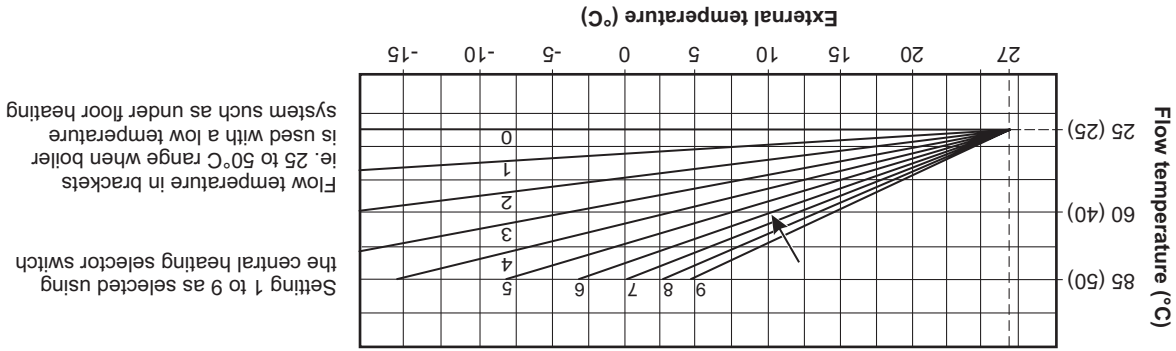
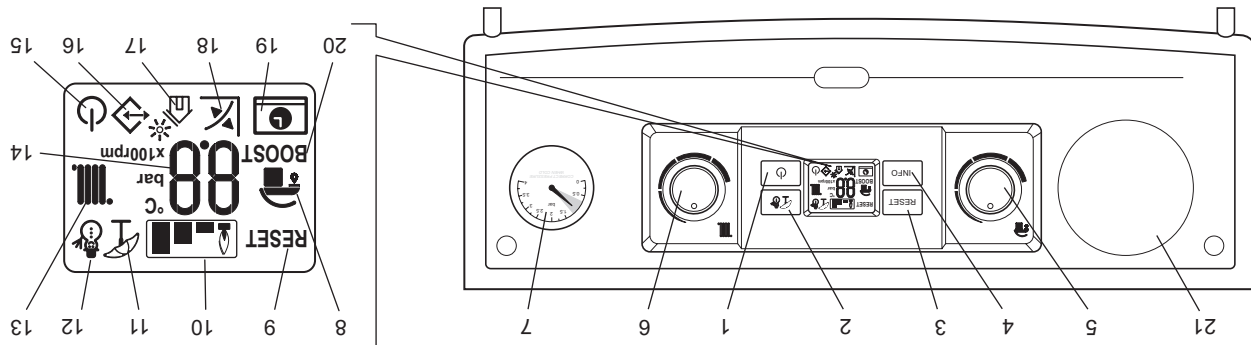

Fig. 2 - External weather compensation probe fitted
Fig. 1
On - In this mode the boiler can be switched between 'Summer' or 'Winter' settings by pressing the Summer/Winter button (item 2 in Fig. 1).
The temperature of the hot water to the taps can be adjusted by turning the hot water selector switch (item 5 in Fig. 1) to the required value shown on the display in °C.
The temperature of the central heating water can be adjusted by turning the central heating selector switch (item 6 in Fig. 1). When the heating is on the temperature of the water leaving the boiler to the radiators will be displayed.
If an external weather compensation probe is fitted, indicated by the symbol (item 18 in Fig. 1) in the display, it will automatically vary the temperature of the water in the radiators and on mild day the radiators will not feel as hot as on a cold day, this is normal and not a fault with the boiler or heating circuit. The room temperature will still be maintained as set by the room thermostat.
When an external weather probe is fitted, the central heating selector switch (item 6 in Fig. 1) will no longer adjust the flow temperature in °C, instead the display will show a scale of 1 to 9. Each number corresponds to a line on the graph in Fig 2 i.e. line 6 will give a flow temperature of 60°C when the external temperature is 10°C.
These taps should normally be in the closed position 90° to the tap housing. To fill or pressurise the system open one tap fully by turning it 90° anticlockwise in line with the tap housing. The second tap should be opened a quarter of a turn and the water will start to refill the system (water should be heard filling the system). You should see the pressure gauge (item 7 in Fig. 1) rise back up into the green area on the pressure gauge between 1 bar and 1.5 bar pressure.
Make sure the heating system is filled and the needle on the pressure gauge (item 7 in Fig. 1) is in the green band. If incorrect refer to Section 5.
Switch the boiler on at the mains supply socket switch. The boiler will automatically go through a system purging operation for 8 minutes; this is indicated by a count down on the display starting from 96. During this operation the pump will turn on and off to help remove any air that may be trapped in the heating system. If the boiler has already been commissioned by the installer then this operation can be terminated by pressing the reset button (item 3 in Fig. 1).
By pressing the On-Off button (item 1 in Fig. 1) the Standby or On mode can be selected, or press and hold the On-Off button for eight seconds to turn the boiler off.